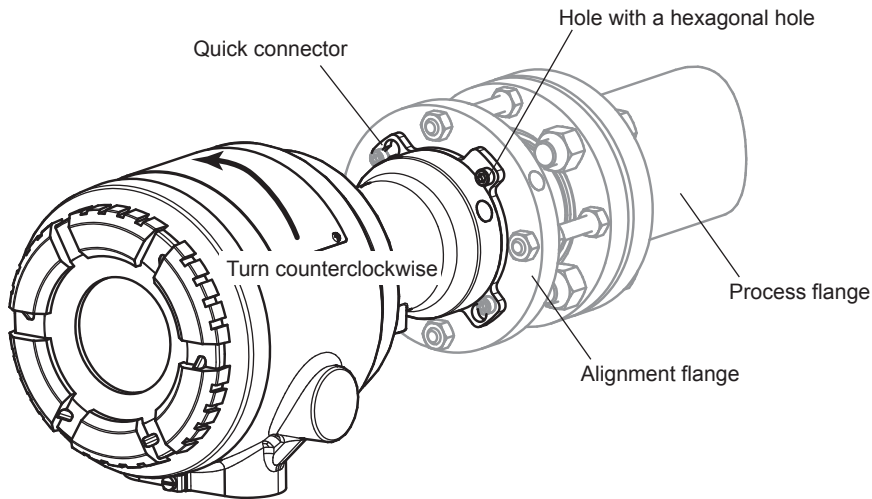

Figure 9.9 Removing from the process
- (1) Using a hex wrench (5 mm), remove only the upper right screw of the quick connector (see Figure 9.9).
- (2) Loosen the other screws (upper left, lower left, and lower right).
- (3) Slowly turn the TDLS8000 counterclockwise to remove it from the alignment flange.